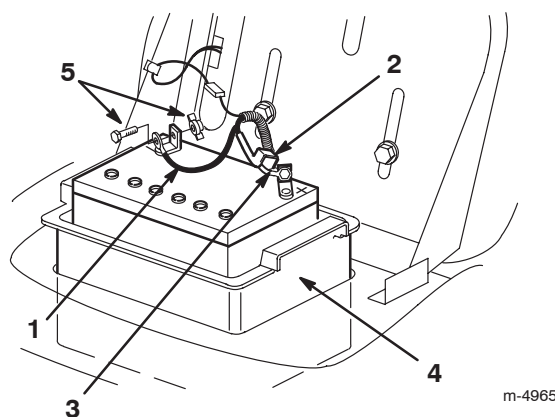

Figure 18
4. Disconnect the negative (black) ground cable from the battery post (Fig. 18).
5. Slide the rubber cover up the positive (red) cable. Disconnect the positive (red) cable from the battery post (Fig. 18).
6. Remove the battery box and battery from the chassis (Fig. 18).
1. Put the battery into the battery box and install it into the chassis (Fig. 18).
2. Using the bolt and wing nut, connect the positive (red) cable to the positive (+) battery post (Fig. 18).
4. Using the bolt and the wing nut, connect the negative (black) cable to the negative (–) battery post (Fig. 18).